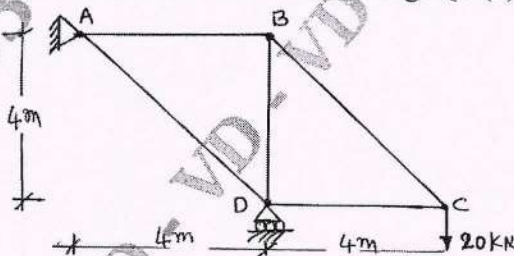

Fig. Q1 (c)
- c. Find the forces in all the members of the truss shown in Fig. Q1 (c) and tabulate it. (12 Marks)